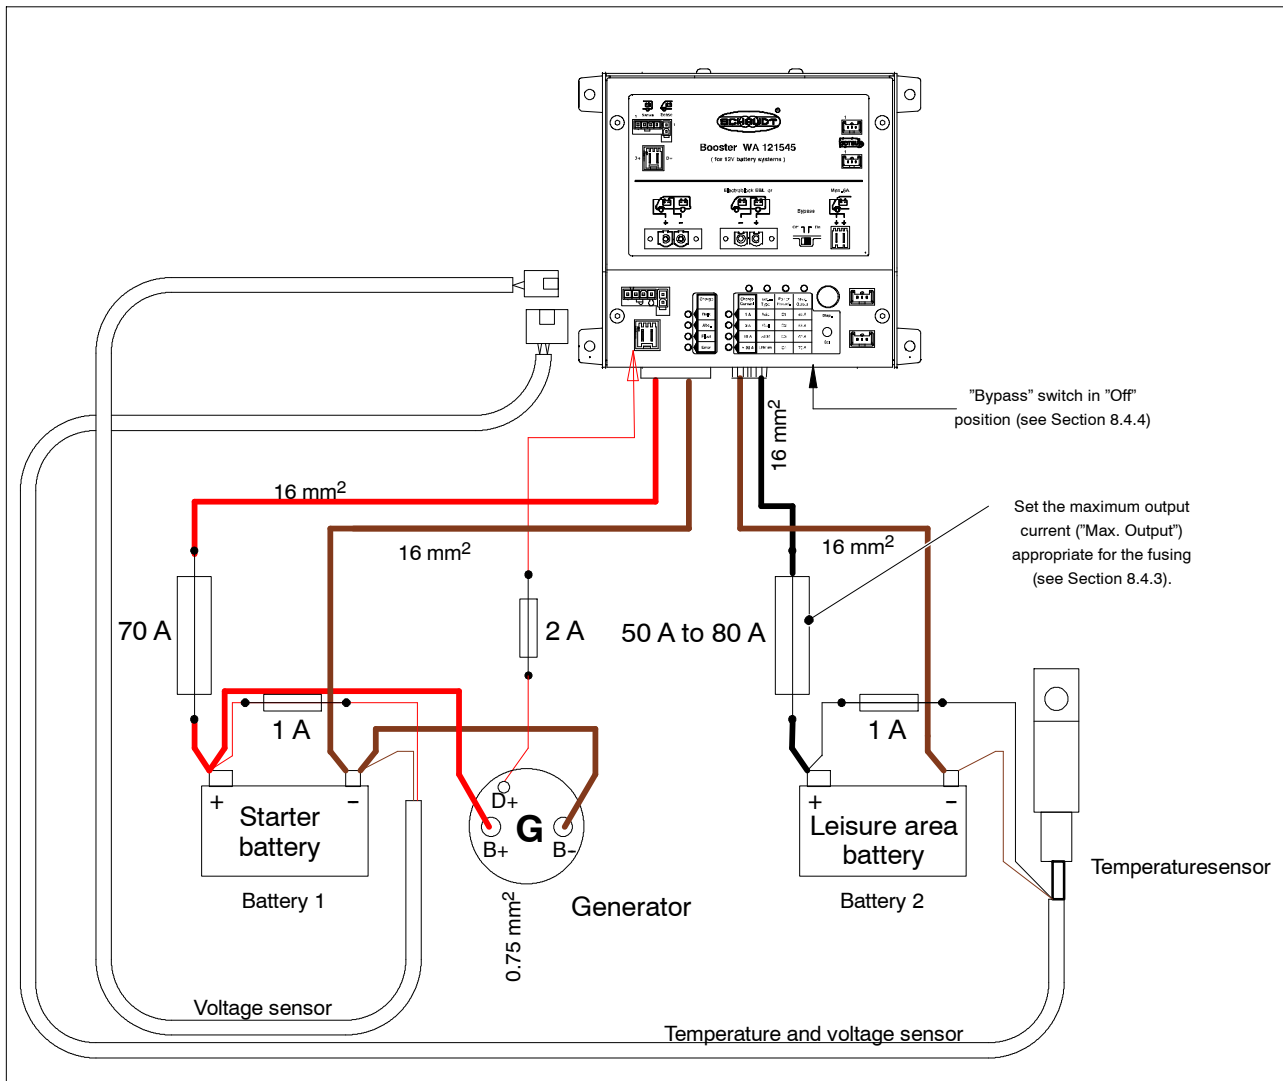

Fig. 8 Vehicles without Schaudt EBL - direct connection to batteries
**Use** Direct connection of the booster to the batteries, e.g. in vehicles where external 3rd party systems are installed or for self-construction (see example fig.8).